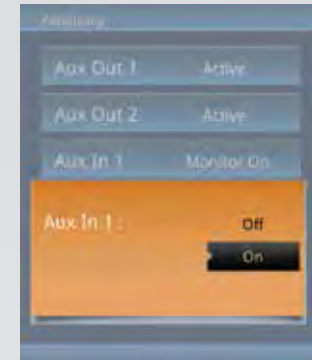

Fig 5.11-1
- From the Auxiliary menu, use the **▲** or **▼** keys to highlight the “Aux In 1”, “Aux In 2”, “Aux In 3” or “Aux In 4” menu option. Touch **OK** to pop up the interface shown in **Fig 5.11-1**.